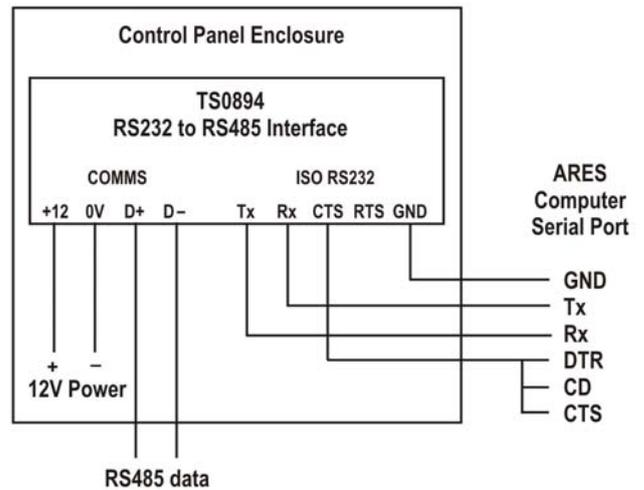

Figure 7: TS0894 connections when used to connect to an ARES computer's serial port (DB25 connector)
- See Figure 7 for ARES connection details.